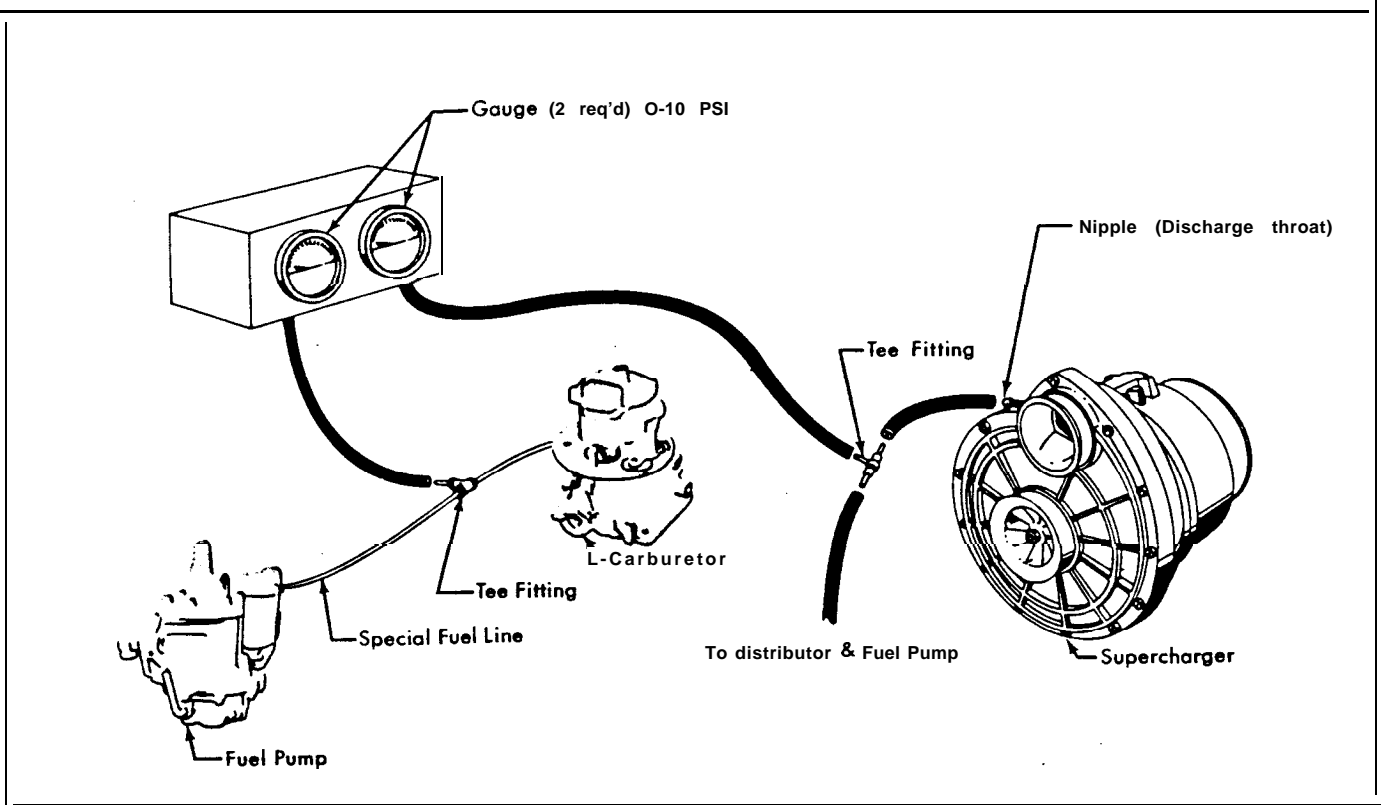

Figure 4
To insure **maximum performance** (and also check the setting of the solenoid regulator) it is necessary to measure the discharge pressure of the supercharger, and the fuel pressure at the carburetor. These measurements require the utilization of two, 0 - 10 psi gauges; one connected at the supercharger discharge throat, and the second connected in the fuel line at the carburetor. Figure 4 shows the suggested method of connecting the two gauges in the system. So connected, one gauge will indicate the output pressure of the supercharger, while the second gauge **will indicate** fuel pressure.
1. Attach pressure gauges as shown in Figure 4, with instruments in driver compartment. Use care not to crush the hose leads when closing hood.